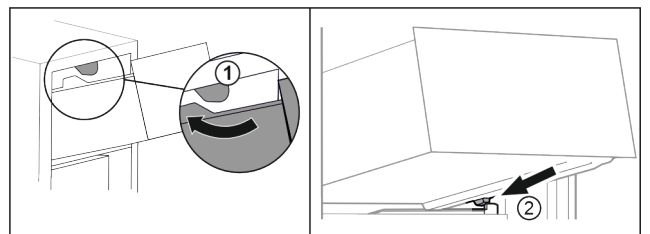

Fig. 63
- ▶ Guide drawer around the upper stoppers. Fig. 63 (1)
- ▶ Place drawer at an angle behind the lower stoppers onto moulded rib. Fig. 63 (2)